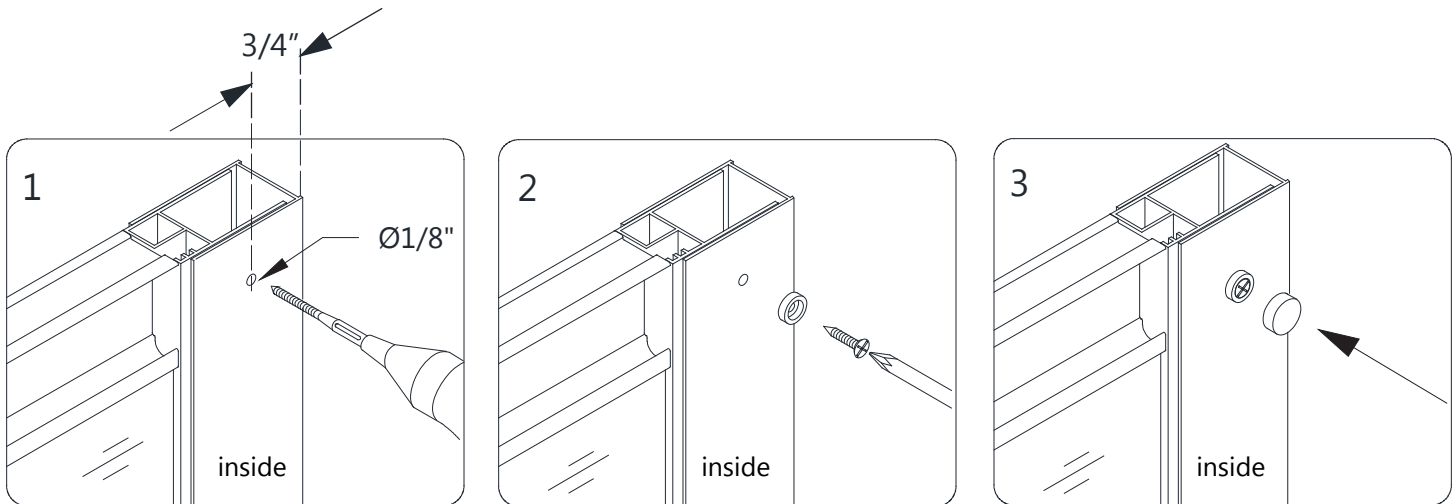

Fig 17
15. Perform the final adjustment of the assembled unit within the **Wall Profiles (#02)** making sure the bottom rail is tight to the threshold. Drill **Ø1/8"** holes in the center of the **Wall Profile (#02)** into the **Glass Profile (#01)**. Drill one hole at the top and one hole at the bottom of each profile. Secure the **Wall Profile (#02)** to the **Glass Profile (#01)** using the **Round Head Screws ST4.2x10 (#11)** and raised white washers. Cover the exposed screw heads with the **Decorative Covers (#13)** (Fig 17)